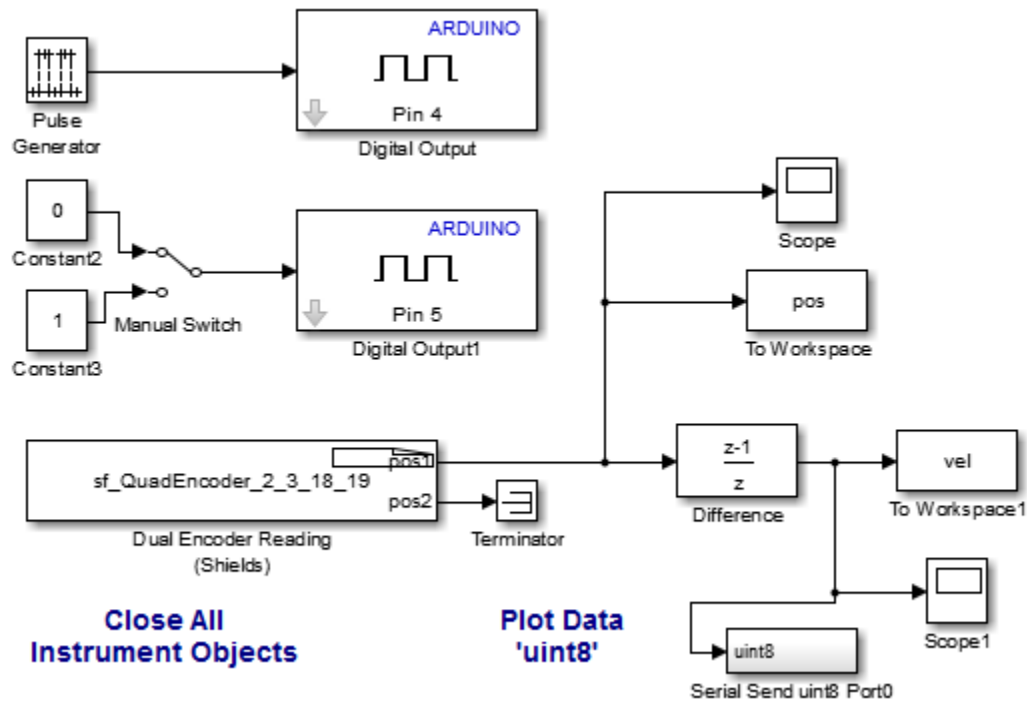

Figure 5: Serial Step Response
- The switched shown in Figure 5 cannot be toggled when external mode is not used so use a pulse generator block to create the step input: